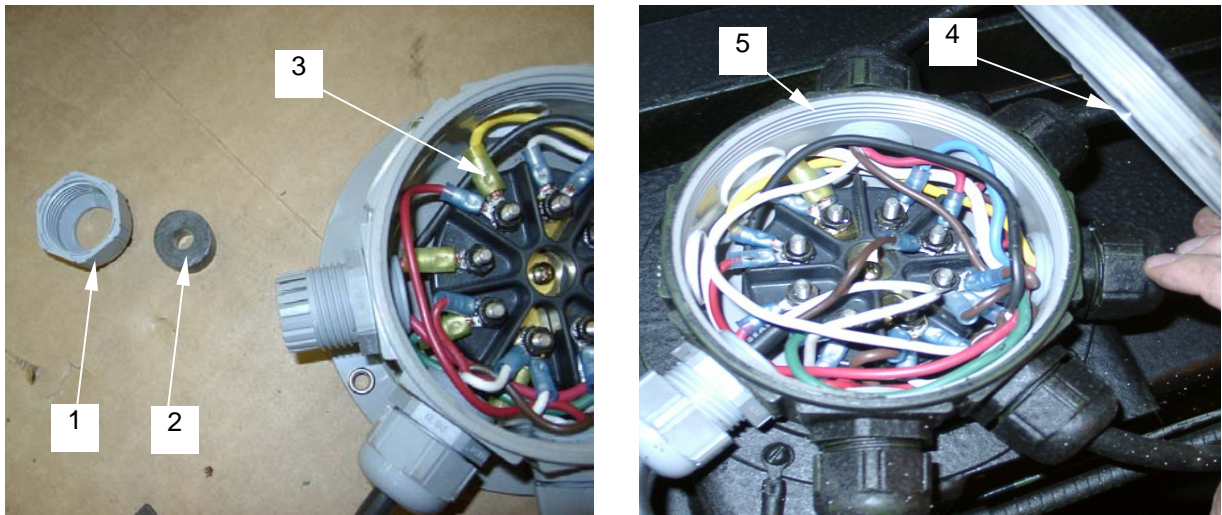

Figure 7. J-Box
13. Feed wire through strain relief nut (**figure 7, item 1**) and grommet (**figure 7, item 2**).
15. Install ring terminal on connection post (**figure 7, item 3**).
17. Tighten strain relief nut (**figure 7, item 1**).
18. Install cover (**figure 7, item 4**) on J-Box (**figure 7, item 5**).